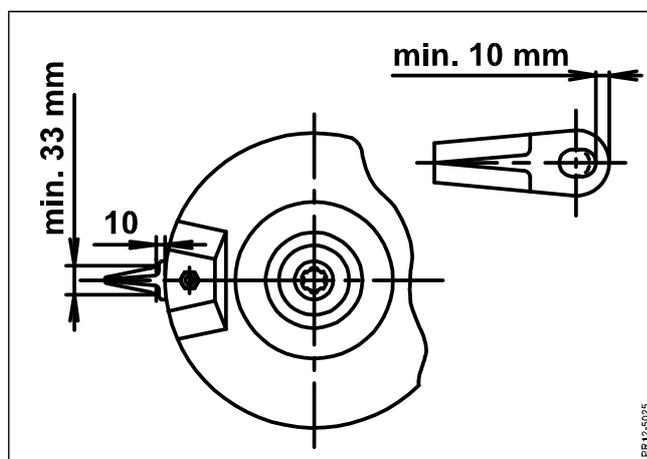

Fig. 5-3
- Fig. 5-3 Blades must be replaced if: